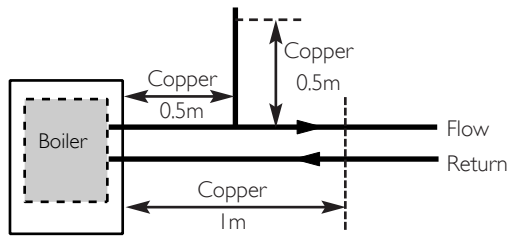

Fig. 4
3. In systems using non-metallic pipework it is necessary to use copper pipe for the boiler Flow and Return. The copper must extend at least 1 metre from the boiler and include any branches. The copper pipe must not be insulated (Fig. 4).